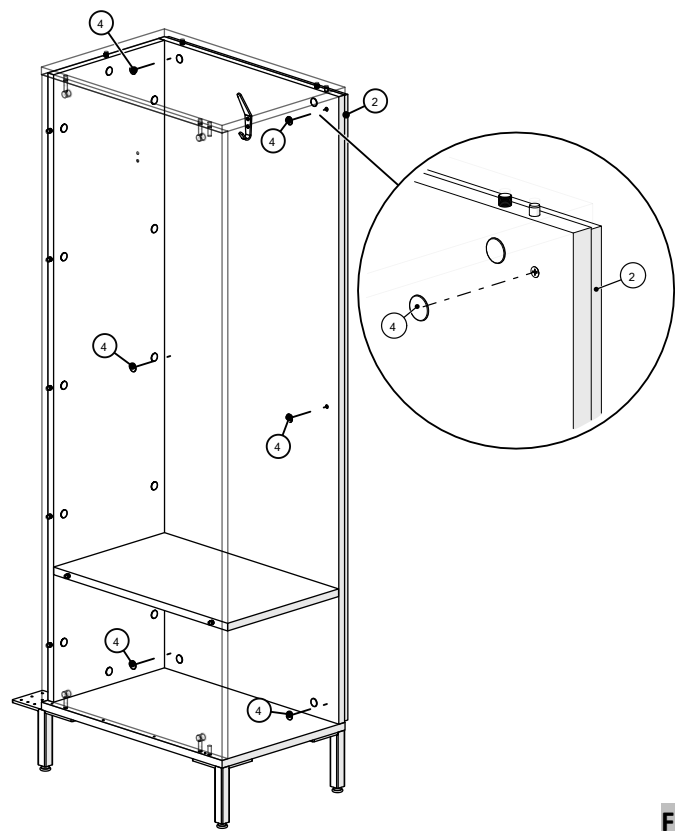

Figure 4
- 4. Attach the Fast Caps provided, (Figure 4).